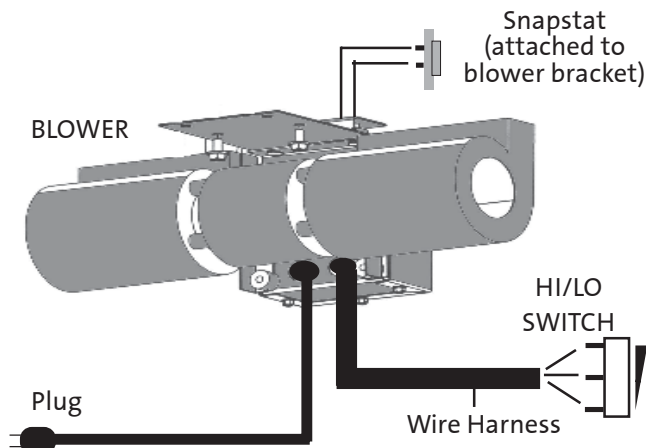

Figure 22. Attaching the blower wire harness.
5. Connect the insulated wires from the blower to three leads on the HI/OFF/LO switch. **BLACK** wire to the HI position, **WHITE** wire to the OFF position, and the **RED** wire to the LO position. See Fig. 22.